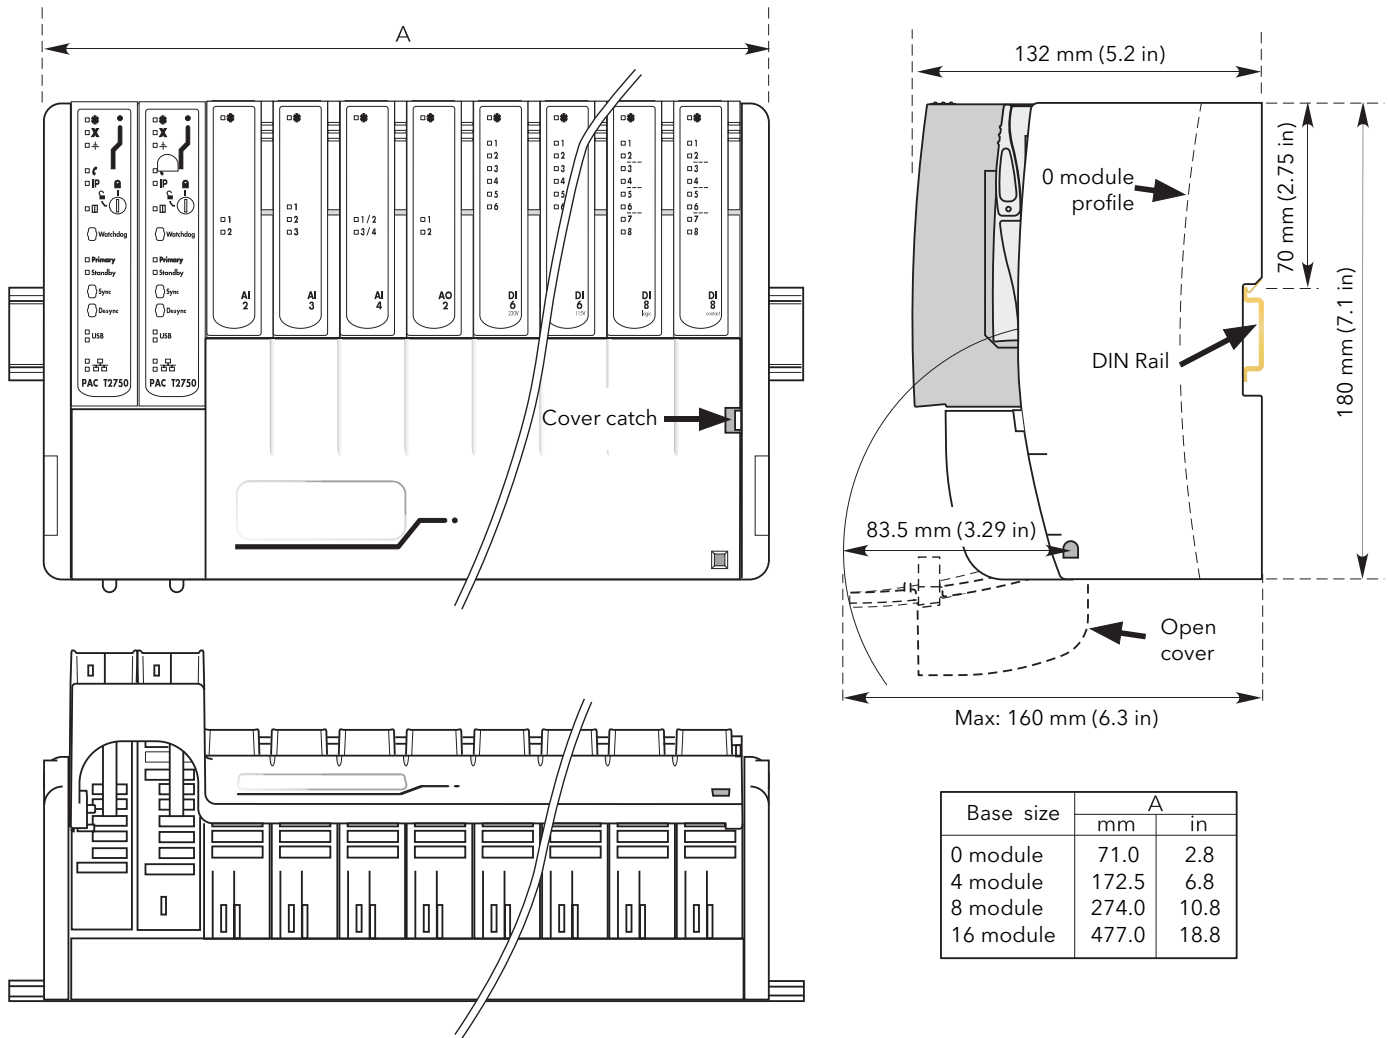
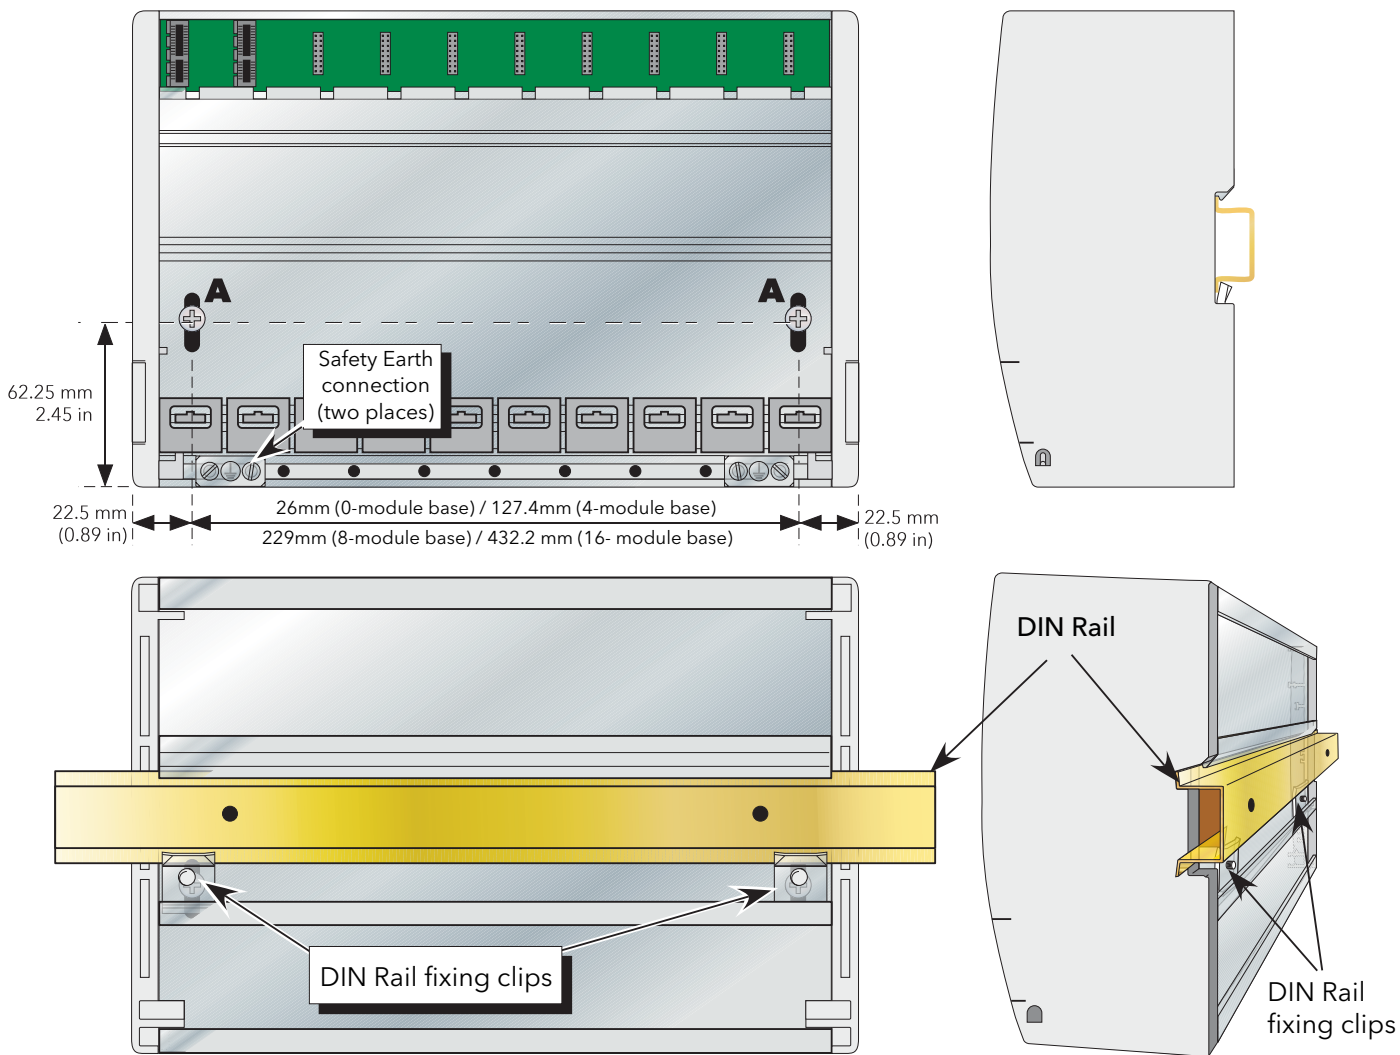

Figure 2.2a Overall dimensions
Figure 2.2b Fixing details
Figure 2.2a gives dimensional details; figure 2.2b gives fixing details.
2. Loosen the screws ('A' in figure 2.2b/c) in the Base Unit, two or three turns, and allow them, and the associated fixing clips to slide to the bottom of the screw slot.
3. Lower the base unit on to the DIN rail such that the top edge of the rail fits into the slot on the underside of the support bar (see figure 2.2b/c).
4. Slide the screws (A) and associated clips as far as they will go towards the top of the screw slots, ensuring that the top of each fixing clip locates behind the bottom edge of the DIN rail.
1. Remove the screws (A in figure 2.2b/c) and associated fixing clips.
Figure 2.2b above, and associated text gives safety earth details.